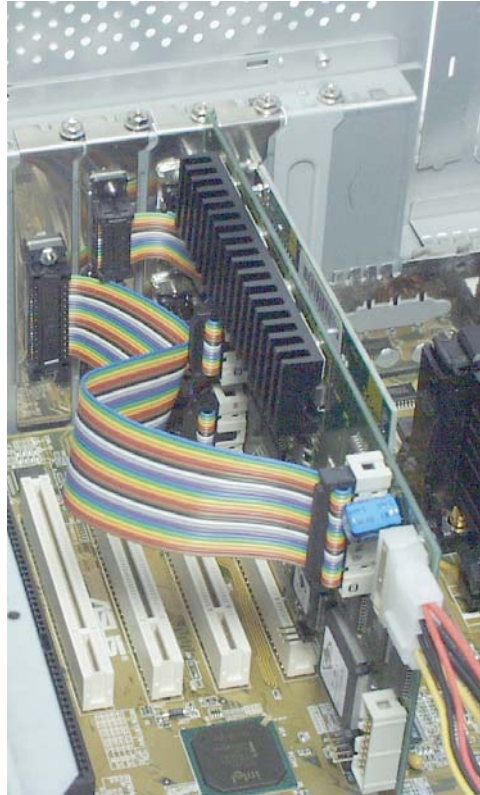

Fig. 2: C-843.41 installed, with power connector at lower right
- 8 Connect the C-843 to the PC internal power supply (see Fig. 2).